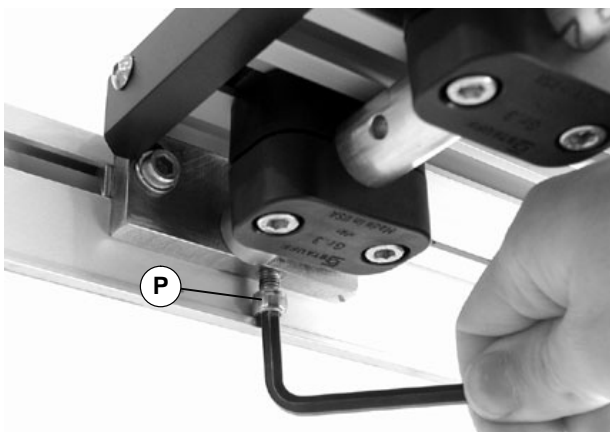

Figure 20
4. To raise table: Turn set screw (P of Figure 20) clockwise at each support bar.